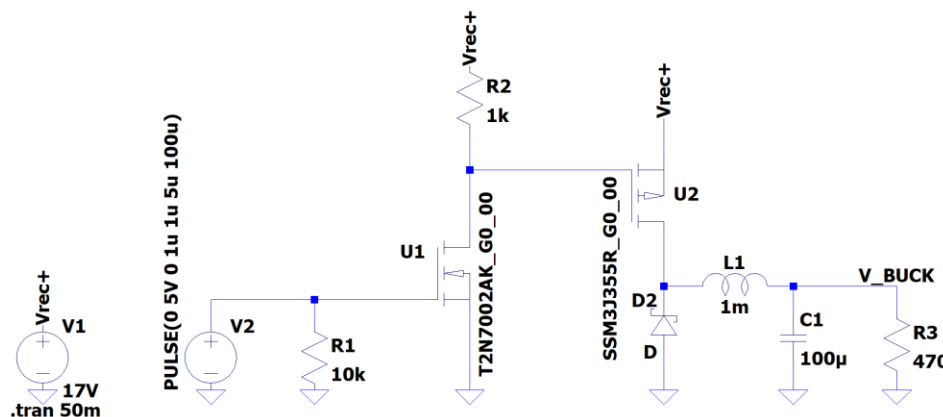

Figure 13: The simulation of the buck converter is available on our LMS in the file buckSim.asc.
Let's look at the detailed behavior of the full bridge rectifier by simulating the circuit in Figure 13. I've posted an LTspice simulation file buckSim.asc on our LMS because you have a lot of work to complete. When you open the file in LTspice you should see a circuit shown in Figure 1. Next run your simulation and probe V_{BUCK} .
- 6) What is the role of the pair of 10k resistors, R1 and R2, in Figure 13?